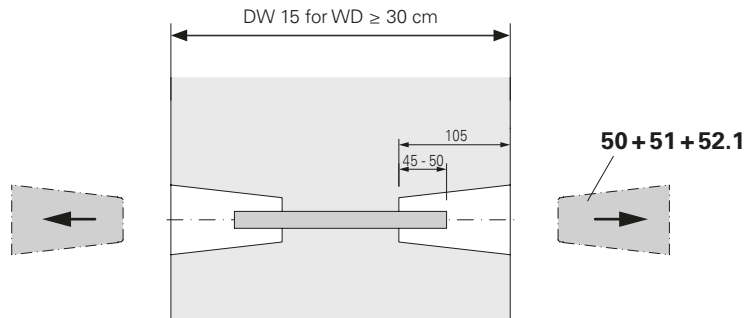
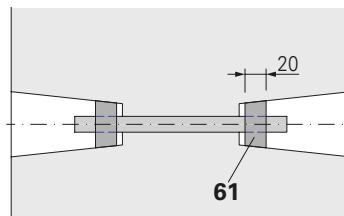
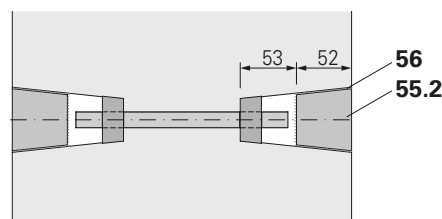

Fig. A2.01
Fig. A2.02
Fig. A2.04
1. Remove the tie cone (51) with Cone Spanner DK (52.1). (Fig. A2.01)
2. Lift off and remove the sealing cover (50). (not shown)
3. Insert the lead cone (61) into the recess. (Fig. A2.02)
4. Tap in the lead cone with steel tube (59) and hammer (60).
(Fig. A2.01 + Fig. A2.04)